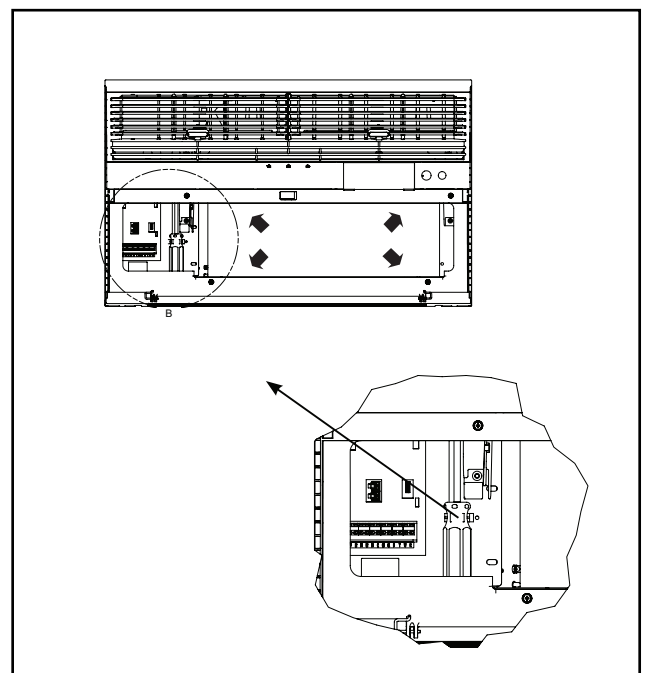

Figure C.5.11
STEP 13. To attach and prevent damage to the front grille, align the cord notch over the cord and center the fresh air lever, then align and tighten the four (4) captive screws as indicated by the arrows in Figure C.5.11 (Preferred tool is a 1/4" nut driver) Before closing the front panel, be sure the filter is in place. Make sure curtains do not block the side air intakes.